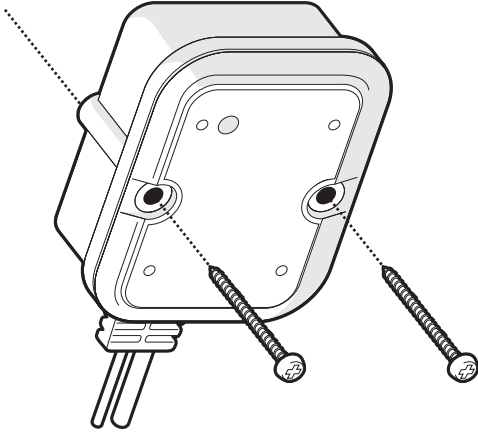

Figure 6 AIS RX-100 mounting
- The product is supplied with two self tapping screws for attachment of the AIS RX-100 to a suitable surface. Please refer to Figure 6 for guidance.